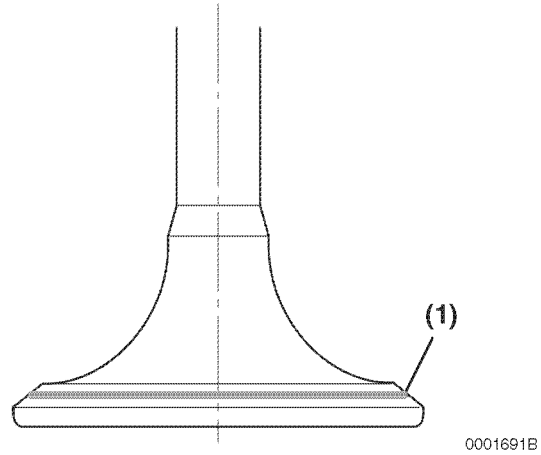

Figure 6-22
Coat the valve seat with a thin coat of bluing compound. Install the valve and rotate it to distribute bluing onto the valve face. The contact pattern should be approximately centered on the valve face (Figure 6-22, (1)) and even in width.